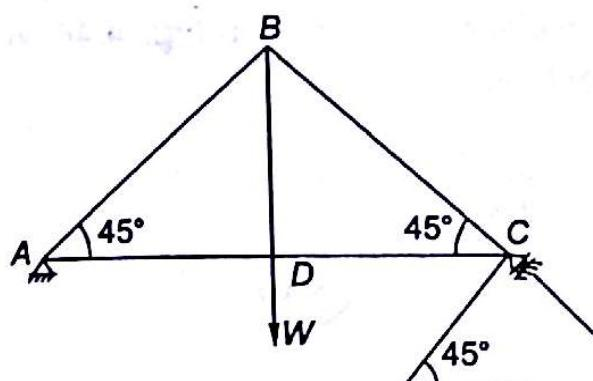

Fig. 4.37
4.8 A truss ABCD, hinged at end A is roller supported on inclined plane at C. Angle of inclination of plane is 45°. Load at joint D is W as shown in Fig. 4.37. What is the horizontal component of reaction at C?